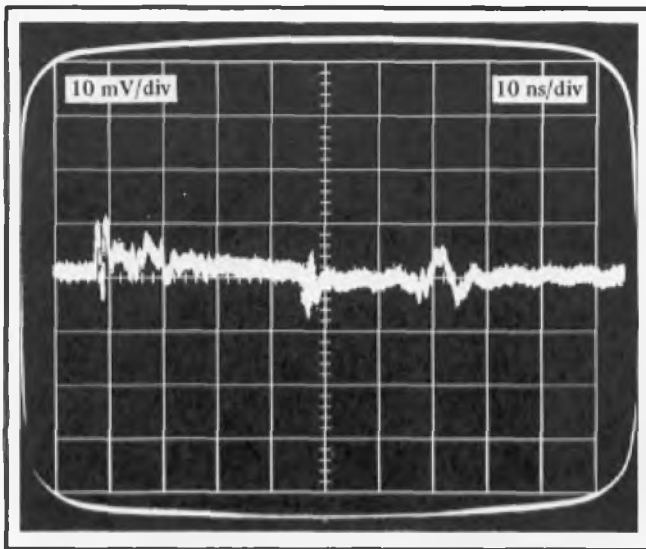

Fig. 5-8. Typical display of trigger kickout.
- d. Set the SENSITIVITY control for a free running trace and measure the amplitude of the pulse on the Indicator Oscilloscope. Fig. 5-8.